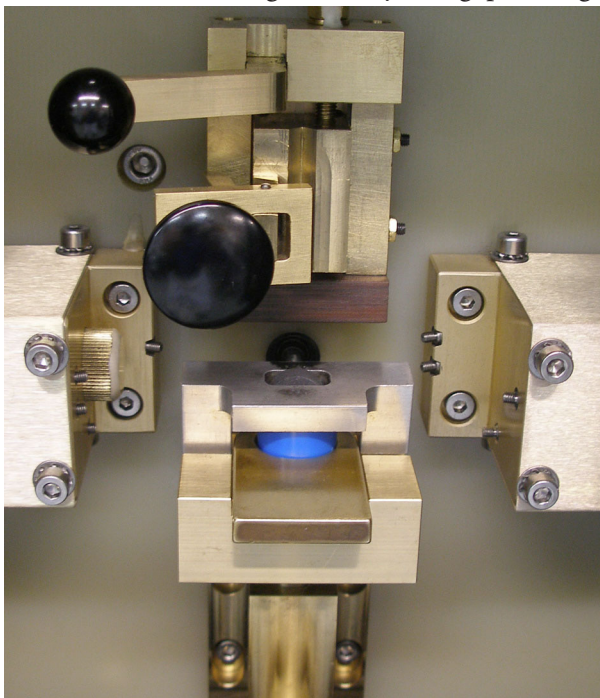

Figure 2-5, Cover Placement on Disposable Sample Holder
- Place the cover on the disposable sample holder and disc electrode, Figure 2-5. Note that the cover fits only in one direction and has a cutout for the disc electrode shaft.